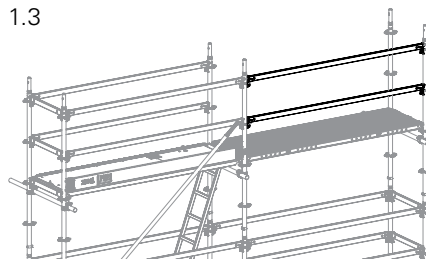

Fig. A4.01c
- Ledger UH on the outside, from a safe position (Fig. A4.01c)